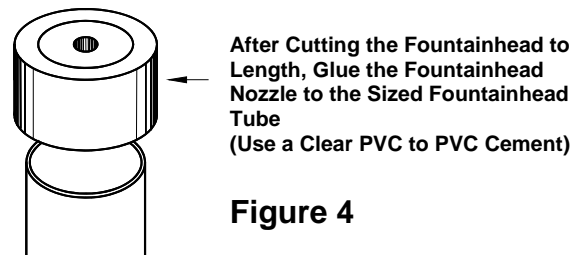

Figure 4
4. **IMPORTANT**, before gluing the nozzle to the end of the sized fountainhead tube, insert the cut end of the tube up through the bottom of the fountainhead housing **then** glue the nozzle in place using clear PVC to PVC cement. (See Figure 4)